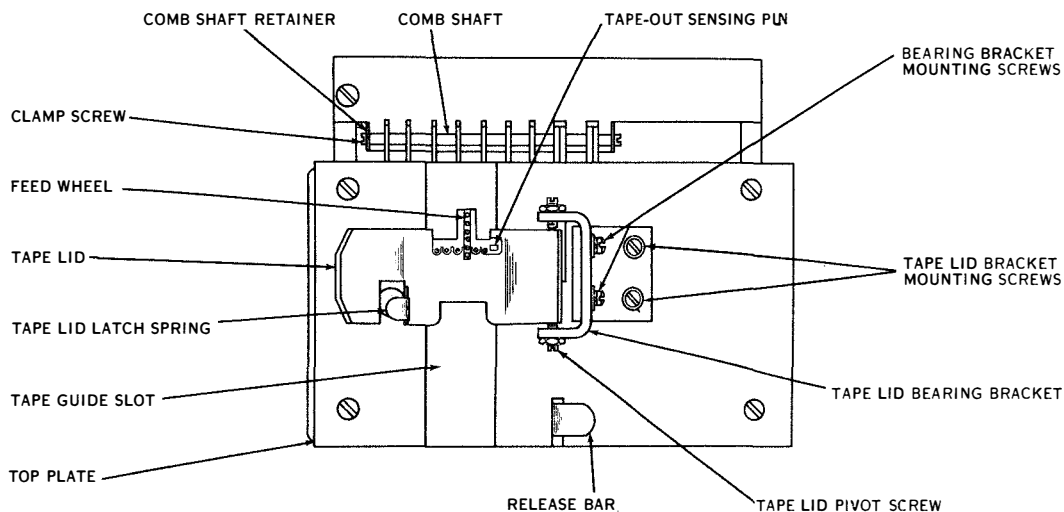
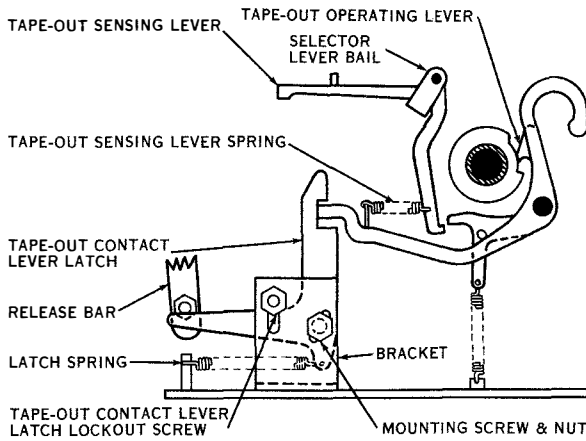

Figure 2-59. Tape-out Sensing Lever Pin
Figure 2-60. Tape-out Sensing Mechanism
with and adjacent to the selector lever pins (see figure 2-59). The tape-out sensing lever pin senses along the edge of the tape and rises when the end of the tape passes through the transmitter. The lower end of the tape-out sensing lever keeps the tape-out operating lever from riding into the indent of its cam as long as there is tape in the machine and the sensing pin is held down. When the tape runs out, the sensing pin moves upward, and the lower end of the tape-out sensing lever swings clear of the operating lever and allows it to drop into the indent of its cam (see figure 2-60). This actuates the tape-out contact lever so that one end of this lever opens the contact points while the other end of this lever becomes latched by the tape-out contact lever latch (see figure 2-60). The opening of the tape-out contact breaks the circuit of the clutch magnet and stops the unit.
2. A stud extending from the lower left-hand side of the release bar actuates the tape-out contact lever latch, permitting the tape-out contacts to close (see figure 2-60).